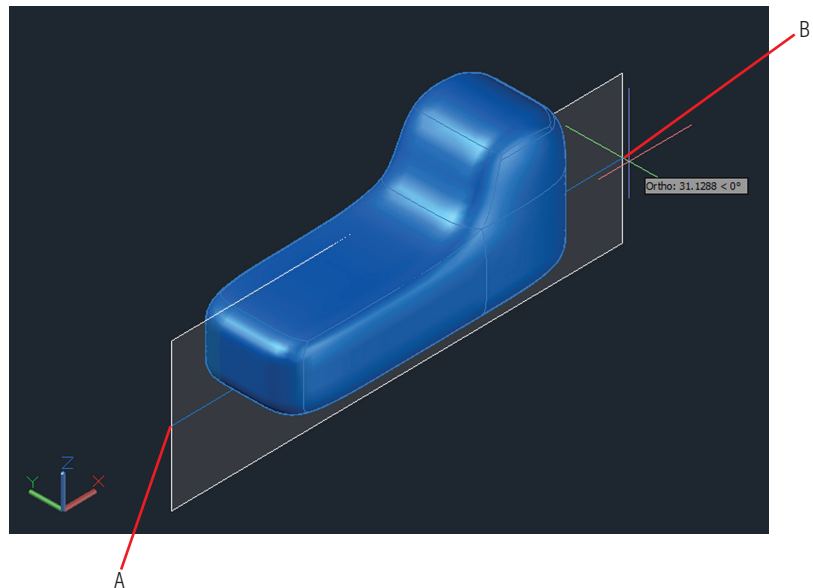

FIGURE 17.34 Drawing a section plane
2. On the ribbon's Home tab, click the Section Plane tool in the Section panel. With Ortho mode on, click points A and B shown in Figure 17.34 to create a vertical section plane.